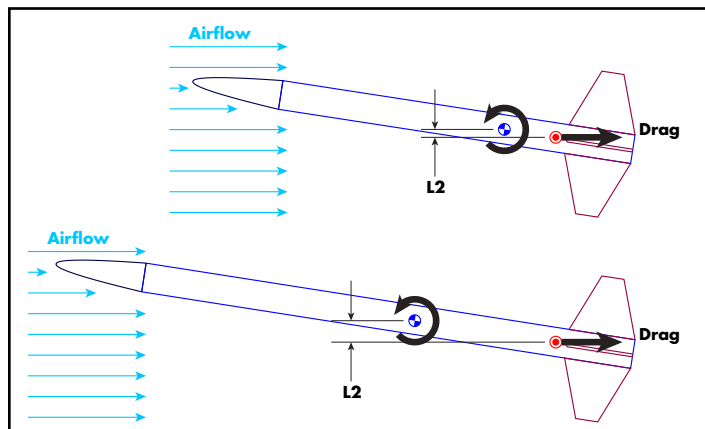

Figure 7: Increasing the length of the rocket increases the effective lever arm that the Drag force acts upon.
1. Increase the length of the rocket, as shown in Figure 7. What this does is make the lever-arm larger at the same angle-of-attack. Compare the length of L_2 in the top versus the bottom drawing.